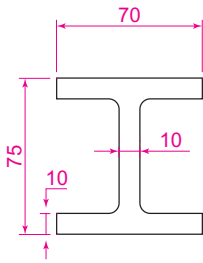

Fig. 12.38 Example **Sweep** – the outline to be swept
1. Construct the pline outline **Fig. 12.38** in the **ViewCube/Top** view.